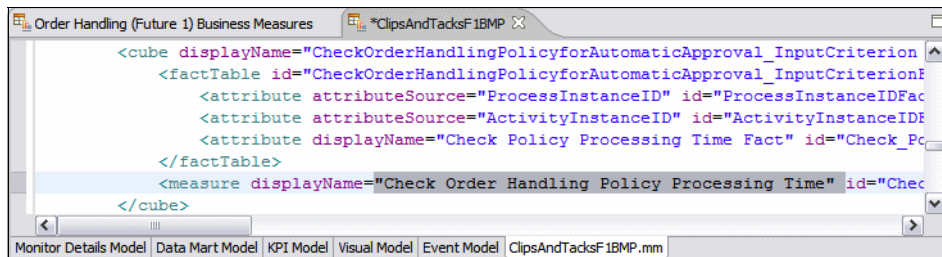

Figure 12-71 XML file with the measure and tracking key
- ▶ With the measure still selected, switch to the *ClipsAndTacksF1BMP.mm* tab. In the XML file, you can find the measure highlighted. Scroll to the right and you can see the tracking key (Figure 12-71).